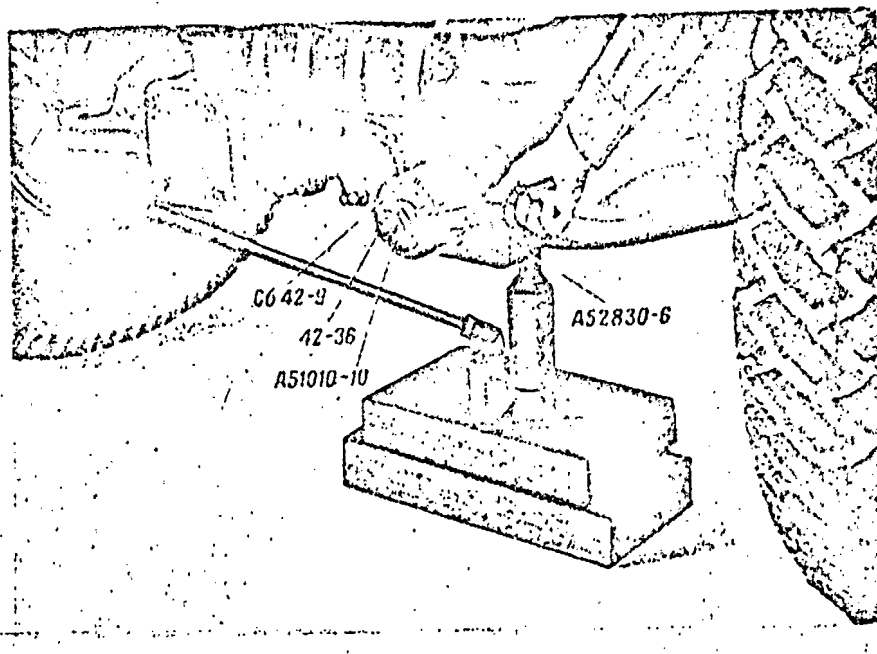

Fig. 62. Removal of the Torsion Bar.
2. Set a jack on a wooden block under the bottom carriage (Fig. 62) on the side of the gun where the torsion bar has to be replaced. Lift